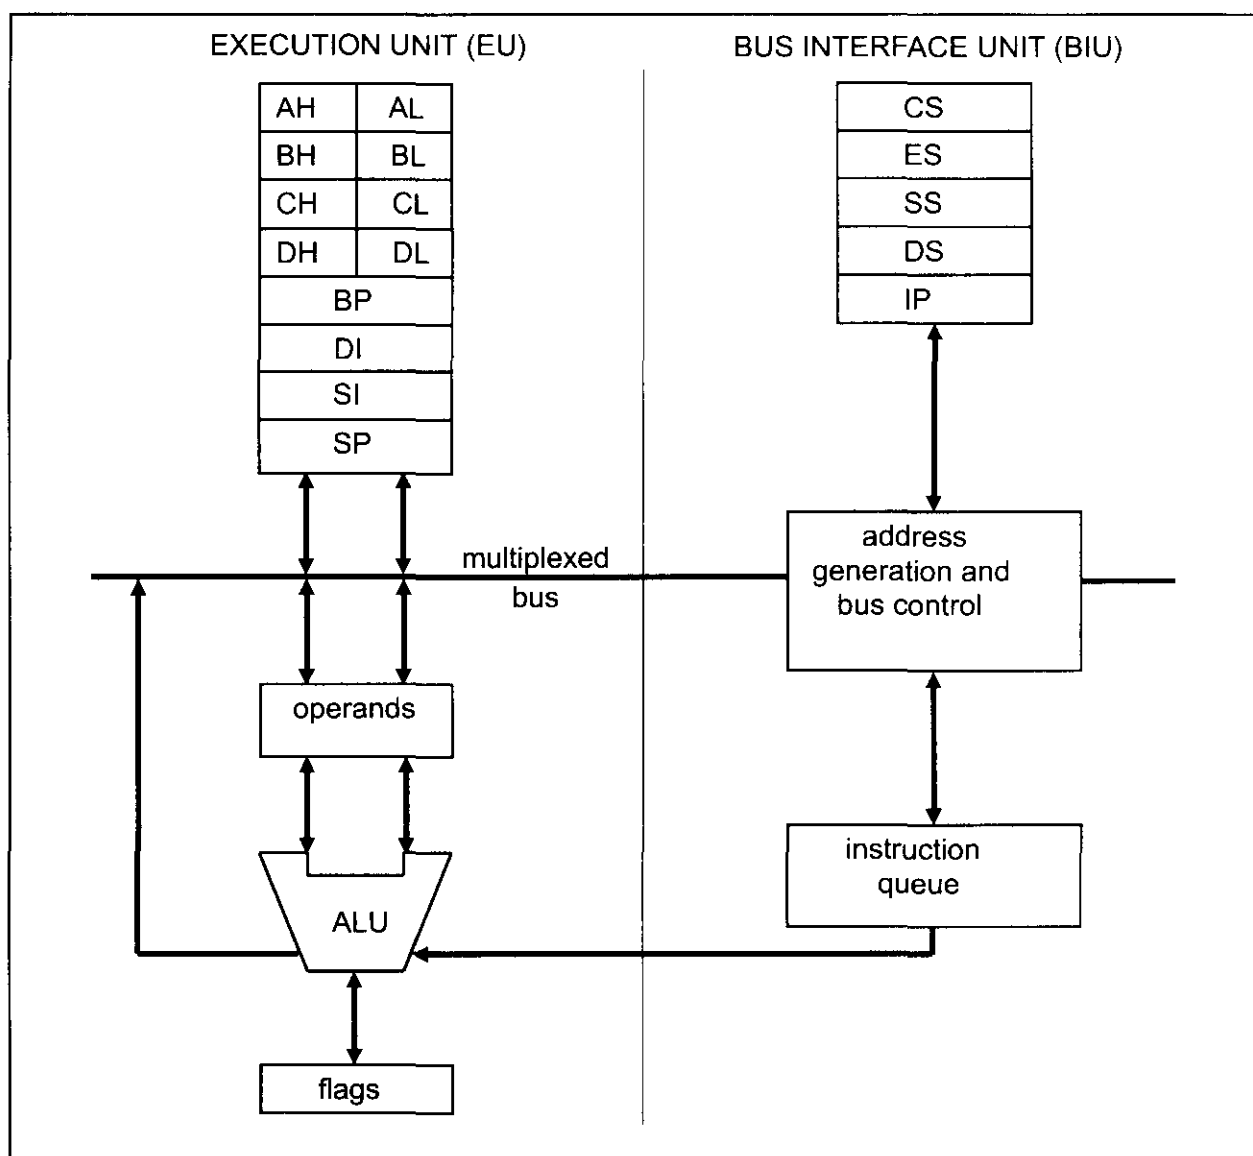

Figure 1-1. Internal Block Diagram of the 8088/86 CPU
In this section we explore concepts important to the internal operation of the 8088/86, such as pipelining and registers. See the block diagram in Figure 1-1.
Intel implemented the concept of pipelining in the 8088/86 by splitting the internal structure of the microprocessor into two sections: the *execution unit* (EU) and the *bus interface unit* (BIU). These two sections work simultaneously. The BIU accesses memory and peripherals while the EU executes instructions previously fetched. This works only if the BIU keeps ahead of the EU; thus the BIU of the 8088/86 has a buffer, or queue (see Figure 1-1). The buffer is 4 bytes long in the 8088 and 6 bytes in the 8086. If any instruction takes too long to execute, the queue is filled to its maximum capacity and the buses will sit idle. The BIU fetches a new instruction whenever the queue has room for 2 bytes in the 6-byte 8086 queue, and for 1 byte in the 4-byte 8088 queue. In some circumstances, the microprocessor must flush out the queue. For example, when a jump instruction is executed, the BIU starts to fetch information from the new location in memory and information in the queue that was fetched previously is discarded. In this situation the EU must wait until the BIU fetches the new instruction. This is referred to in computer science terminology as a *branch penalty*. In a pipelined CPU, this means that too much jumping around reduces the efficiency of a program. Pipelining in the 8088/86 has two stages: fetch and execute, but in more powerful computers pipelining can have many stages. The concept of pipelining combined with an increased number of data bus pins has, in recent years, led to the design of very powerful microprocessors.